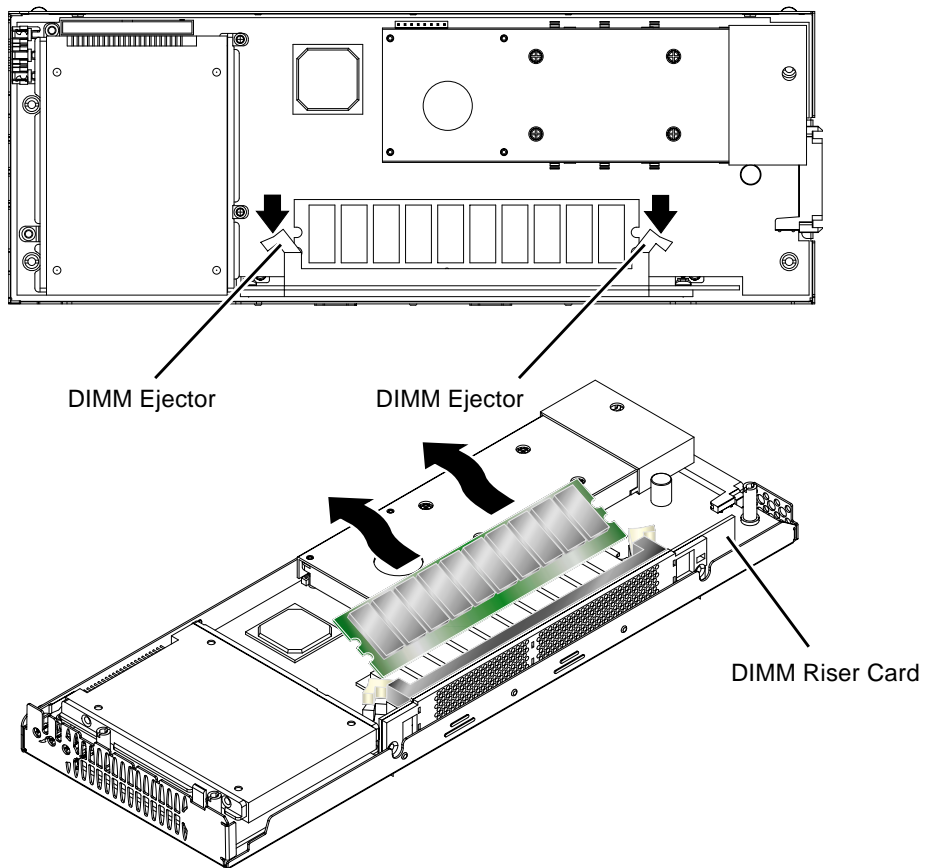

FIGURE 3 Removing the Existing DIMM
3. Remove the DIMMs by pressing the DIMM ejectors firmly (FIGURE 3). Press against the back of the DIMM riser card for support.